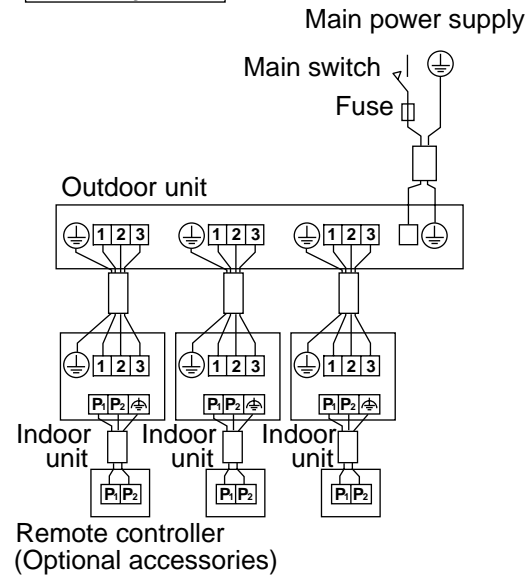

Fig. 26
- **Multi system:** 1 through 4 indoor units connect to 1 outdoor unit. The indoor unit is controlled by remote controller connected to each indoor unit. (Refer to Fig. 26)